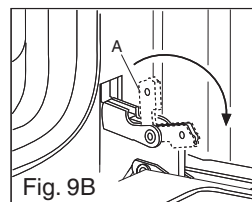

Fig. 9B
- flip the hinge hooks "A" outwards (see fig. 9B).